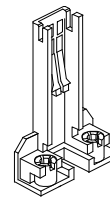

Figure 2-4
- ❑ Universal Retention Mechanism (URM) - Plastic Guide with captive nuts that hold the S.E.C. Cartridge in the Slot1 connector. (Refer to Figure 2-4)